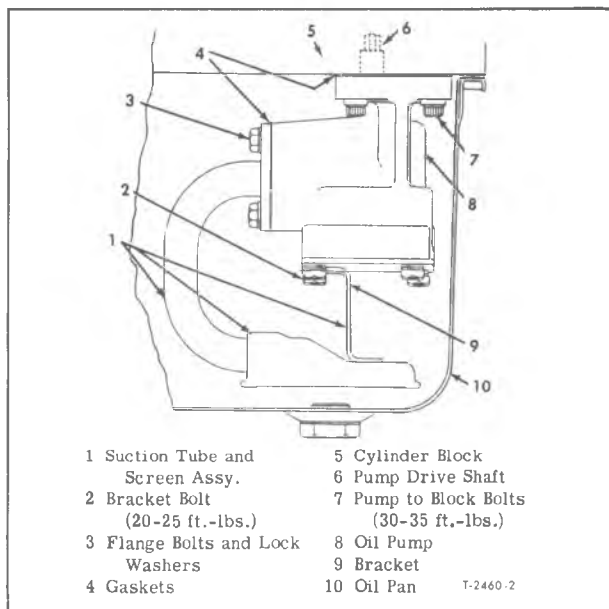

Figure 15—Engine Oil Pump and Suction Screen Assembly
(Key Numbers Refer to Figure 15)
When installing tube and screen assembly on oil pump, use new gasket between tube flange and pump body. Install all attaching bolts loosely, then tighten bracket bolt (2, fig. 15) first. Correct torque is 20 to 25 foot-pounds. Finally, tighten tube flange bolts (3, fig. 15).
INSTALLATION (Fig. 15)
3. Align mounting bolt holes in pump flange with holes in block and install pump to block bolts (7, fig. 15).